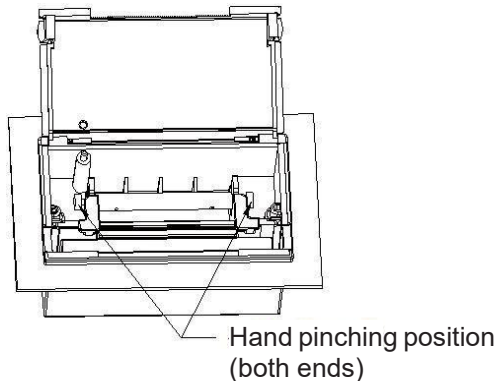

Fig. 2-3
(2) Hold both ends of the paper shaft shown in the figure below and take out the paper shaft, as shown in Figure 2-3.